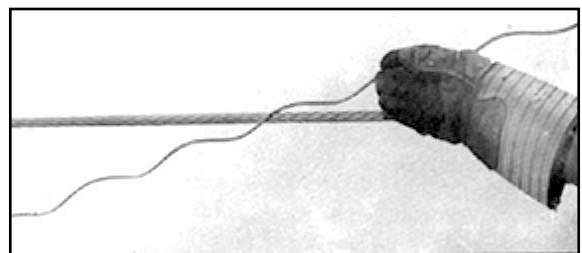

FIGURE 2
- 2.02 Apply the factory marked center line of the first Suspension Structural Reinforcing Rod to the center of the cable. Wrap the first rod around the cable. (Figure 2)